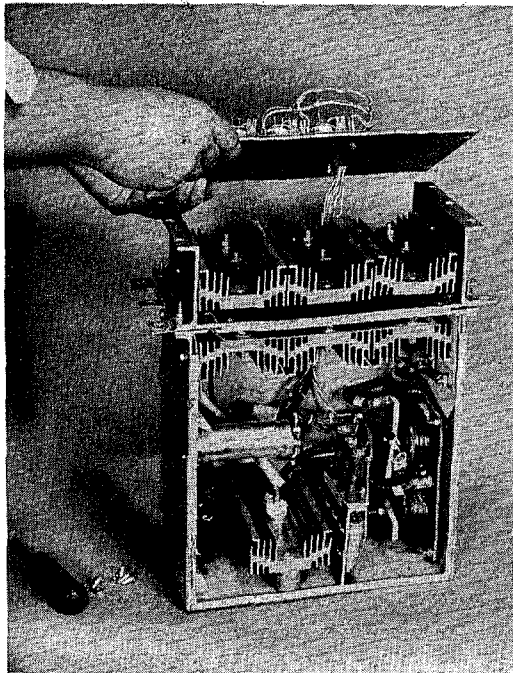

FIGURE 14
5. Fold back the cover, thereby, exposing the Press-Pak SCR heatsink clamps. The remaining wire harnesses should support the front insulation cover while removing and replacing the defective Press-Pak cell. See Figure 14.